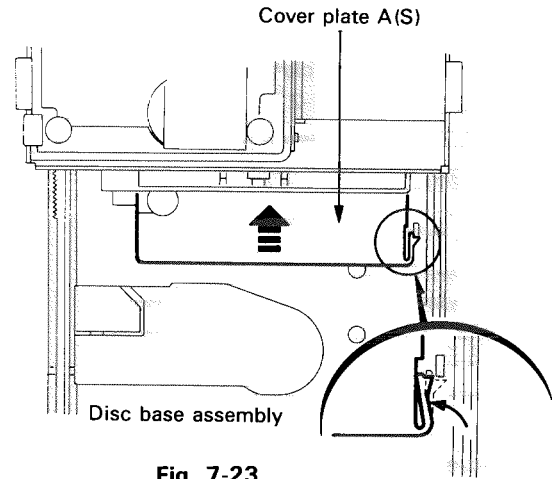
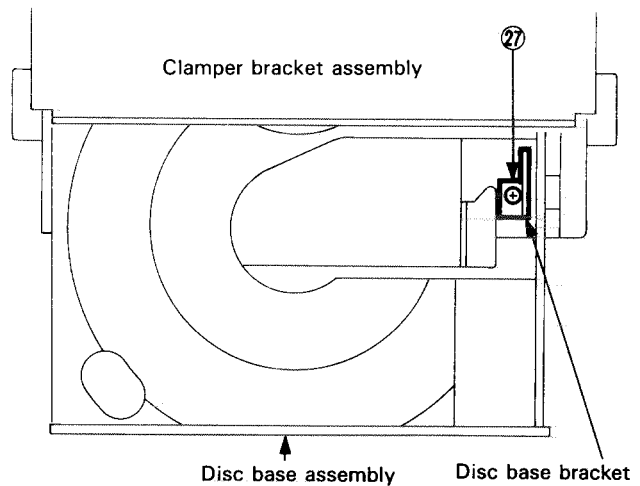

Fig. 7-23
Fig. 7-24
■ **Method of removing the disc base assembly (Refer to Figs. 7-23 and 24)**
3. After turning over the CD changer mechanism assembly, turn the gear G4 manually in the direction of arrow as shown in Fig. 7-23, and raise the CD mechanism assembly.
5. After turning over the CD changer mechanism assembly, move the point (C) engaging the cover plate A (S) and disc base assembly in the direction of arrow and disengage the above plate and assembly.
6. After turning the CD changer mechanism assembly back to the normal position, remove the one screw (27) retaining the disc base bracket visible from notched window of the disc base assembly (Refer to Fig. 7-24).